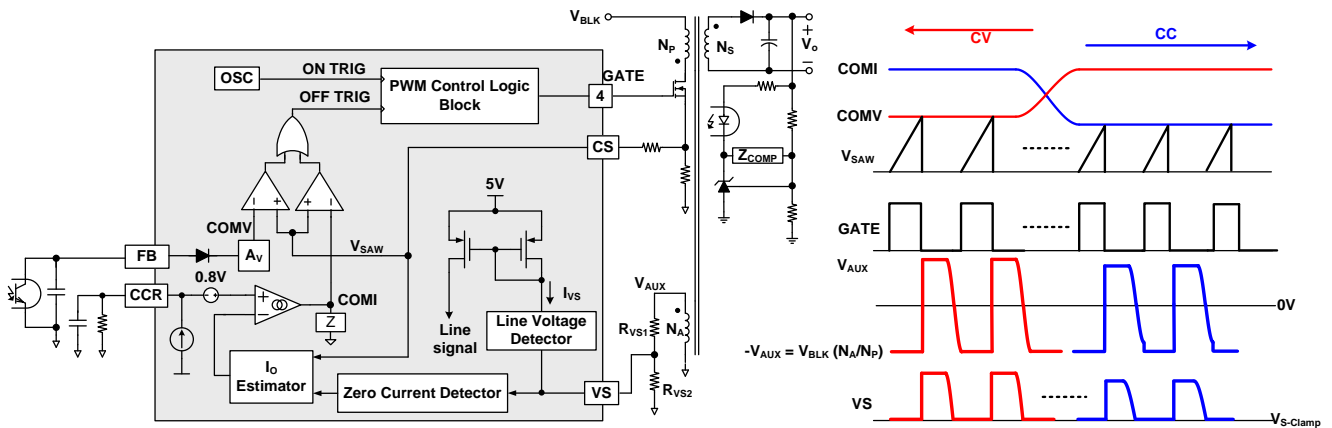

Figure 27 Simplified PWM Control Circuit and PWM Operation for CV/CC Regulation
The FAN604 indirectly senses the line voltage through the VS pin while the MOSFET is turned on, as illustrated in Figure 27. MOSFET turn-on period, the auxiliary winding voltage,  $V_{AUX}$ , is proportional to the input bulk capacitor voltage,  $V_{BLK}$ , due to the transformer coupling between the primary and auxiliary windings. During the MOSFET conduction time, the line voltage detector clamps the VS pin voltage to  $V_{S-Clamp}$  (0 V), and then the current  $I_{VS}$  flowing out of VS pin is expressed as:
Figure 27 shows a simplified CV / CC PWM control circuit of the FAN604. The Constant Voltage (CV) regulation is implemented in the same manner as the conventional isolated power supply, where the output voltage is sensed using a voltage divider and compared with the internal reference of the shunt regulator to generate a compensation signal. The compensation signal is transferred to the primary side through an opto-coupler and scaled down by attenuator  $A_v$  to generate a COMV signal. This COMV signal is applied to the PWM comparator to determine the duty cycle.
These two control signals, COMV and COMI, are compared with an internal sawtooth waveform ( $V_{SAW}$ ) by two PWM comparators to determine the duty cycle. Figure 27 illustrates the outputs of two comparators, combined with an OR gate, to determine the MOSFET turn-off instant. Either of COMV or COMI, the lower signal determines the duty cycle. During CV regulation, COMV determines the duty cycle while COMI is saturated to HIGH level. During CC regulation, COMI determines the duty cycle while COMV is saturated to HIGH level.